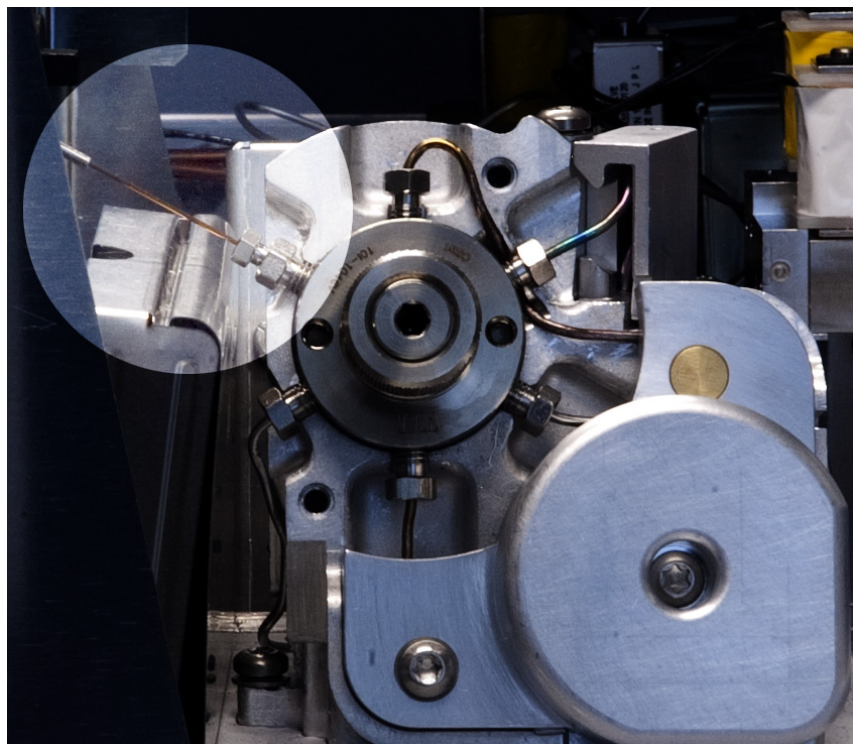

Figure 5 3/16-inch internal reducer with valve cover removed and loop cover shown (the valve/loop cover is similar)
- c Loosen the 3/16-inch nut in the internal reducer (Figure 5).